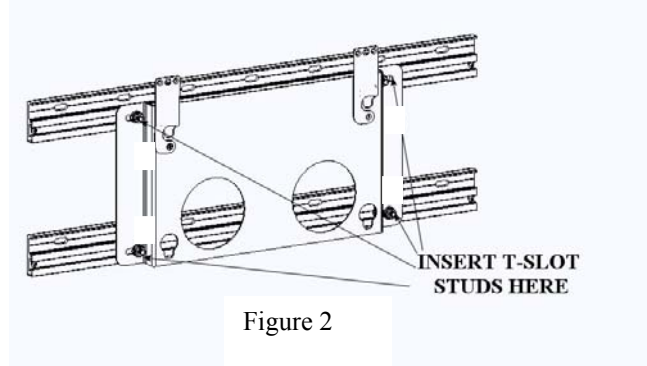

Figure 2
4. Connect lateral shift extrusions to the plasma static wall mount by inserting the T-slot studs into holes and secure using four flat washers, four lock washers, and four hex nuts (Figure 2).